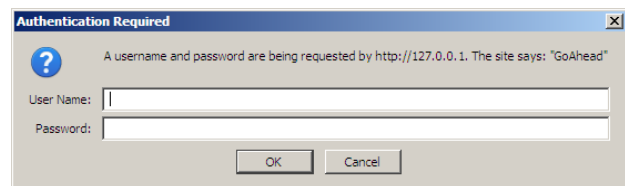

figure 36.7: Logon window
- 4 Click the *Continue* button to access the web interface. A screen similar to the one in figure 36.7 pops up.